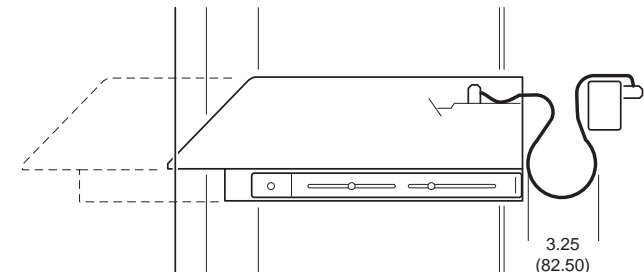

Figure 3-5: Cable Attachments
- In the recessed position, make sure there is 3-1/4 inch (8.25 cm) clearance for the loop of slack cable as shown in **Figure 3-5**